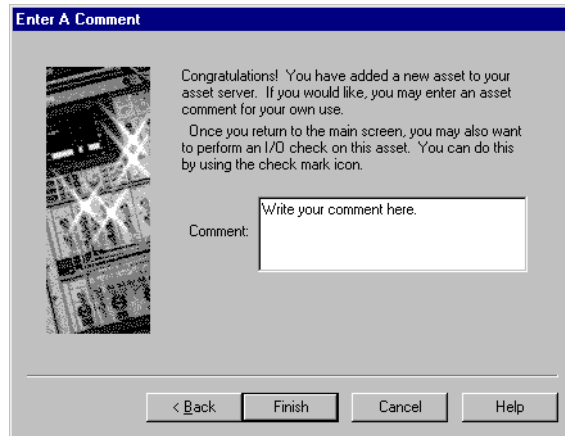

Figure 1-18 Enter a Comment About the Configured Asset
- 7 You can type a comment in the **Enter a Comment** box (Figure 1-18). The comment associates itself with the asset you have just configured.